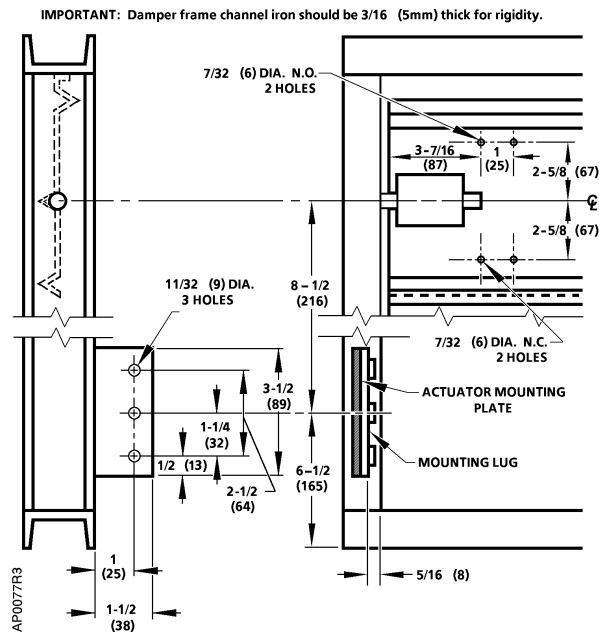

Figure 6. Frame Mounting Dimensions.
2. Weld the mounting lug parallel and 5/16-inch (8 mm) from the inside edge of the damper frame and perpendicular to it (Figure 6). Weld the lug along both sides. The lug should be as close as possible to the corner of the damper frame to minimize deflection. The damper manufacturer should weld the lug.
4. Attach rocker to blade in proper position for normally open or normally closed damper (Figure 6).